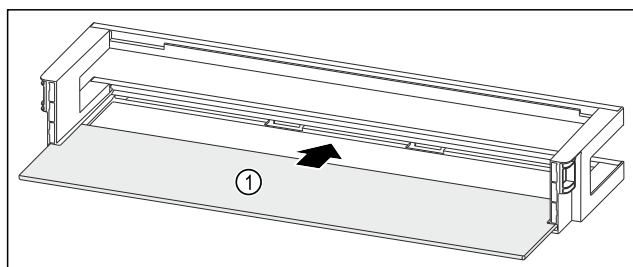

Fig. 134 Door rack with shelf
- Push the shelf Fig. 134 (1) into the side recesses.